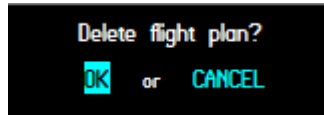

Figure 7.25
- 5.3 click on the ENTER key to display a window prompting to perform the function or cancel (Figure 7.25).